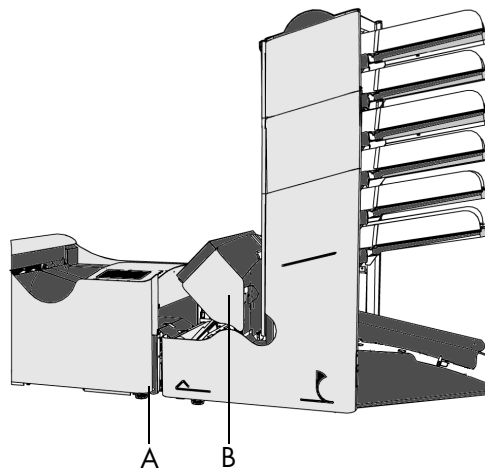

Fig. 54
- push the lower end of the locking handle A to open the PowerFold™ cover B (fig. 54).